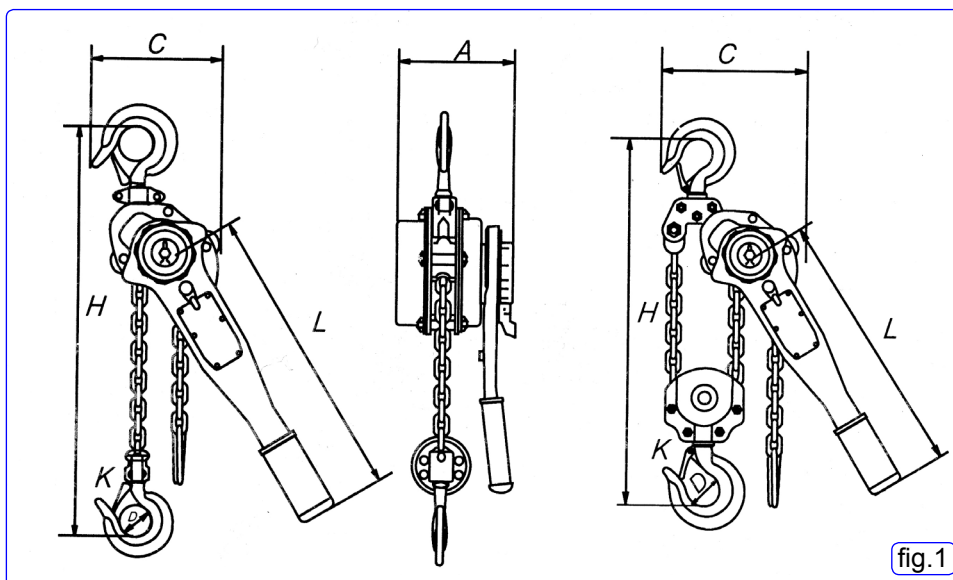

fig.1
2.2. Technical Data (A, C, D, K and L refer to fig.1)